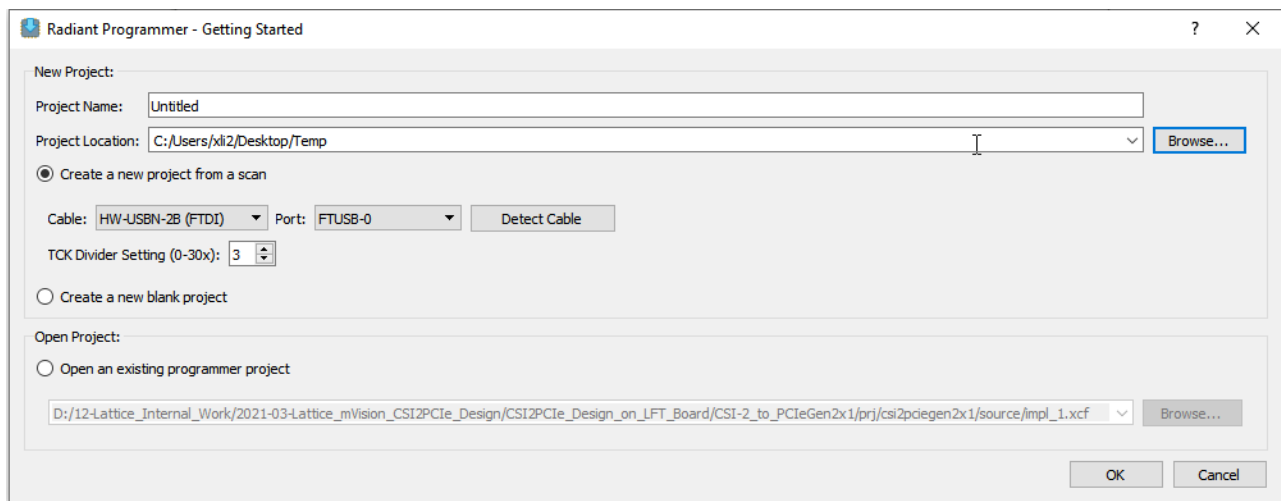

Figure 4.1. Getting Started Dialog in Lattice Radiant Programmer
5. The **Radiant Programmer – Getting Started** dialog box opens (Figure 4.1). By default, the **Create a new project from a JTAG scan** option is selected. Check and confirm if other settings are correctly selected and if the required components are connected.